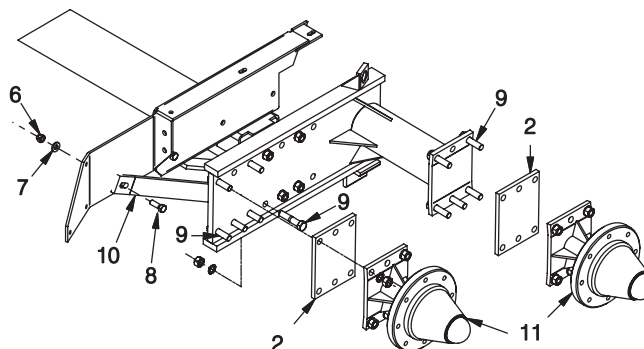

Figure 2 - Mounting Spacer Plate, Hub & Spindles
B. Place (1) F000007705 RH Brace on the axle as shown in Figure 2. Place (2) F000007636 Spacer Plates on the tandem plate as shown in Figure 2. Place (2) F000008003 Hub and Spindle assemblies as shown in Figure 2. Place all bolts, star washers and nuts so the hub and spindle are secure. Torque all nuts and bolts as per torque chart on page 1.